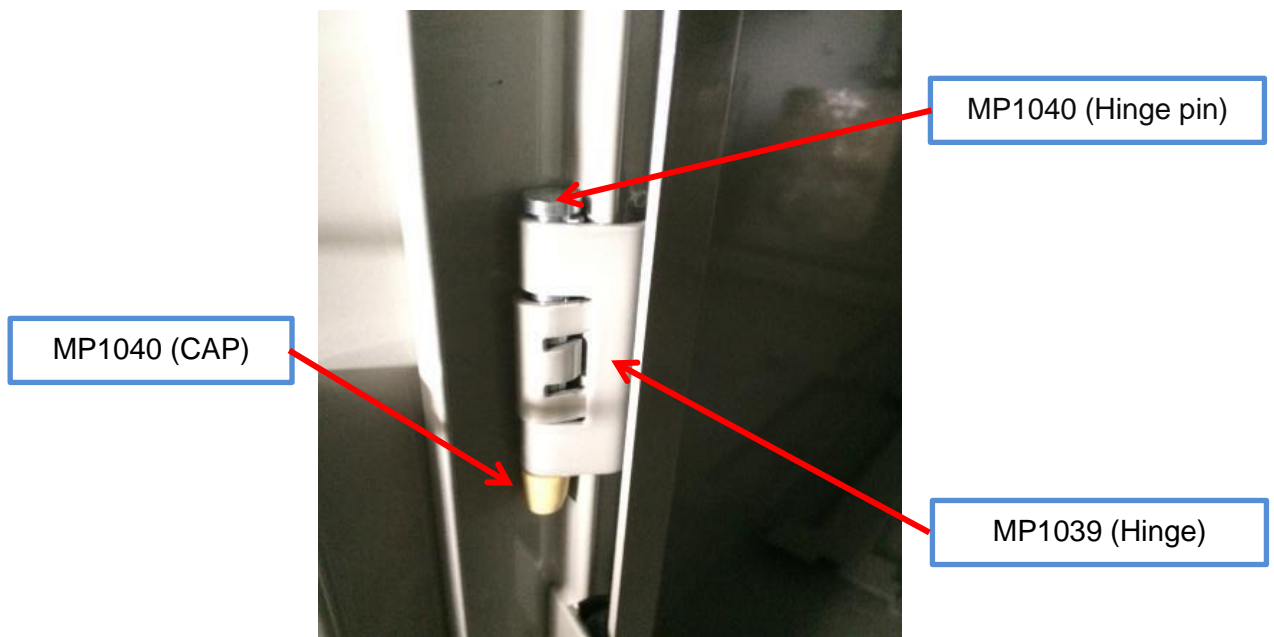

Fig 2.8d – Attach the cap to prevent the pin from lost.
- c) Once all pins done, put on the cap at the end of the pin. (Fig 2.8d)